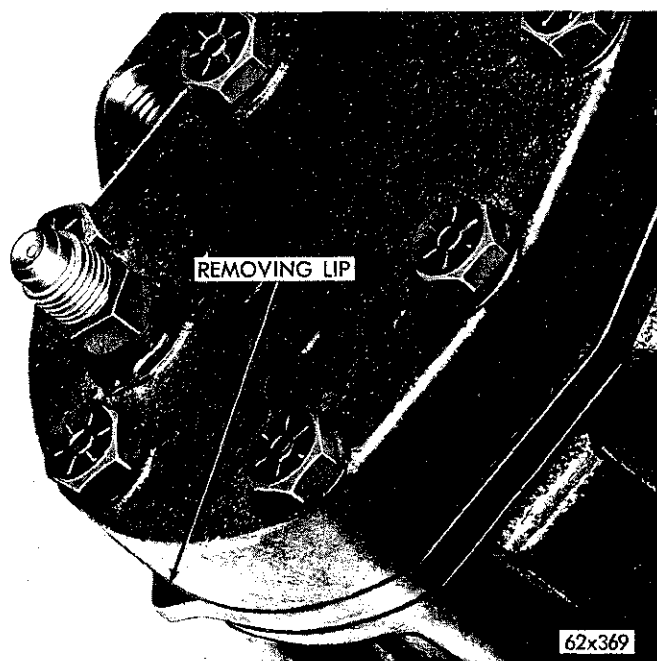

Fig. 37—Valve Plate and Head Removing Lip
(1) Remove the cylinder head bolts, the head and valve plate assembly. If the plate does not separate from the head, tap the removing lip on the valve plate lightly with a plastic hammer (see Fig. 37). Do not pry apart.